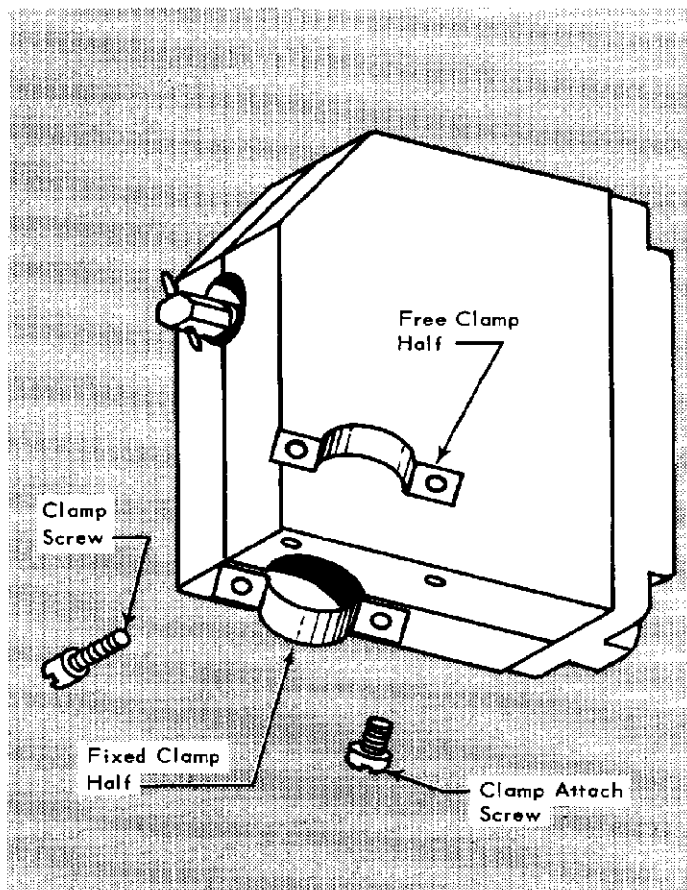

Fig. 3
5. Attach fixed Clamp Half to right hand Shield Half using two 4-40 x 1/4 Clamp Attach Screws. See Figure 3.
6. Assemble the two Clamp Halves using two 4-40 x 3/4 Clamp Screws. See Figure 3.